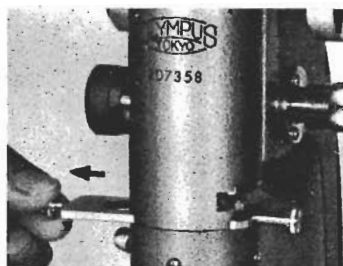

Fig. 4
1. Pull out the analyzer sliding mount in the arrow direction (Fig. 4), to engage the analyzer in the light path.
2. The analyzer is rotatable up to  $90^\circ$  by means of the rotation knob ①.